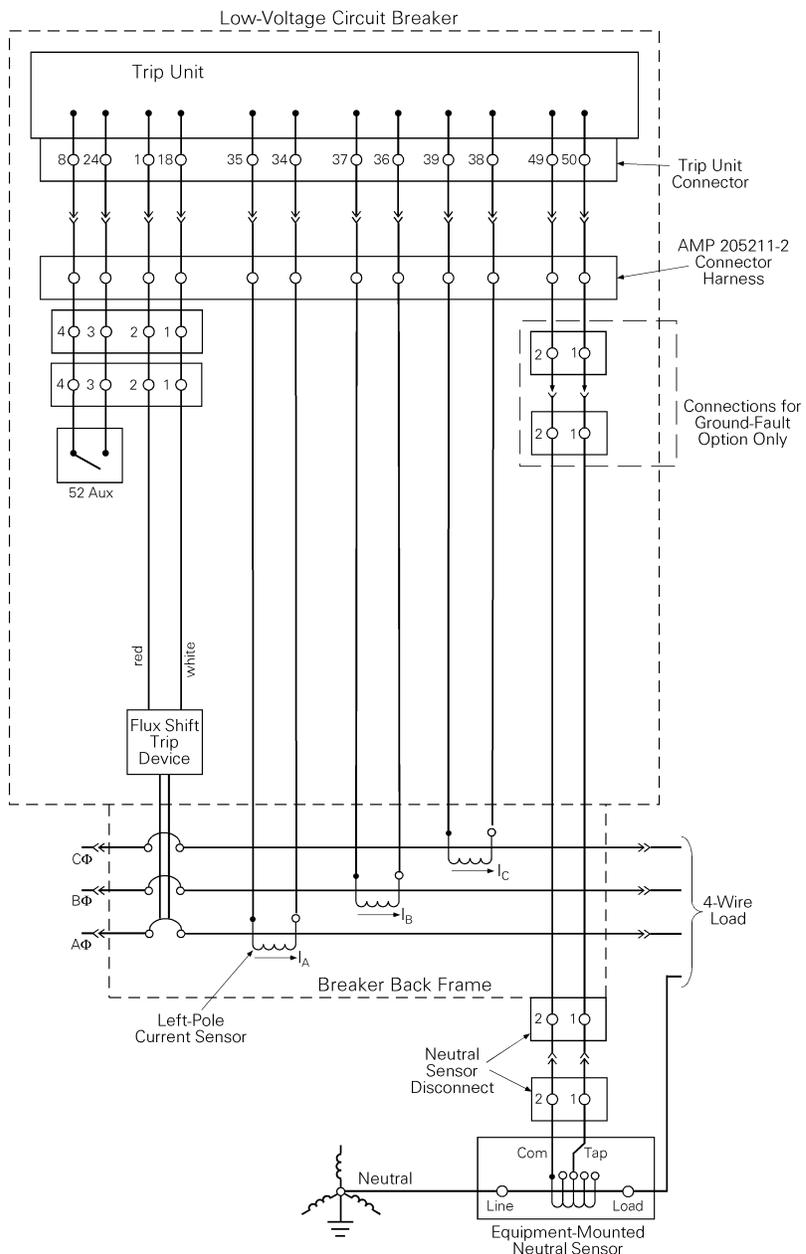

Figure 31. Cabling diagram for ProTrip™ trip units with ground fault on four-wire loads.
common, black lead to tap), as shown in the cabling diagram in Figure 31.
4. On ground fault breakers serving four-wire loads, check that the neutral sensor is properly connected, as indicated in Figure 31. In particular, check the following: